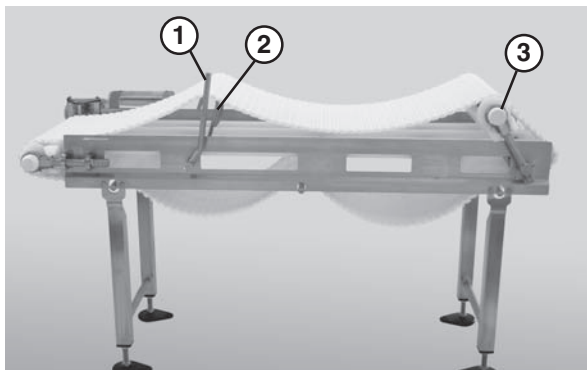

Figure 40
2. Use the lifter handle (**Figure 40, item 1**) to raise the lifters (**Figure 40, item 2**) if applicable, and raise the tip up tail (**Figure 40, item 3**).